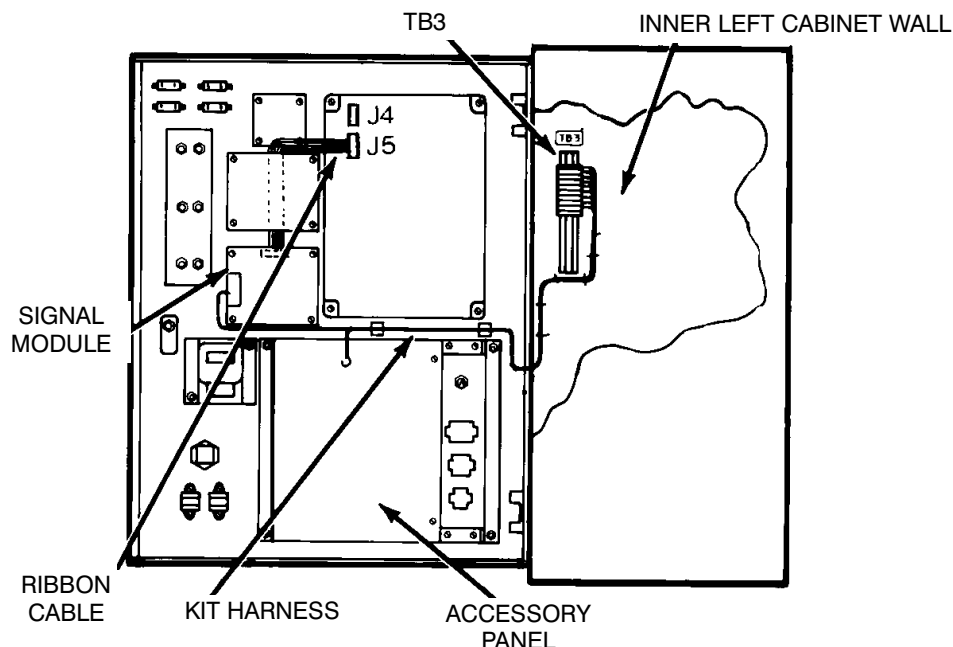

FIGURE 1. COMPONENT LOCATION
4. Mount the circuit board and the cover as shown in Figures 1 and 2.
5. Route the ribbon cable under the Signal Module (if present), bend it at a 90° angle, and carefully plug the free end into J5 on the Power Sentry mother board (Figure 1).
11. Route the kit wiring harness along the main harness as shown in Figure 1.